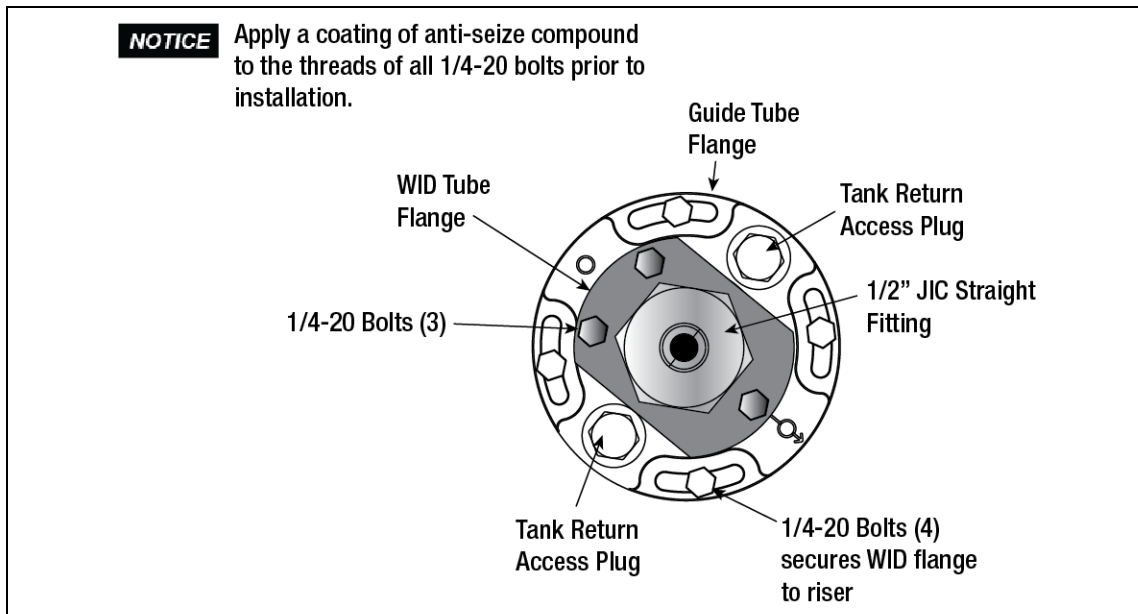
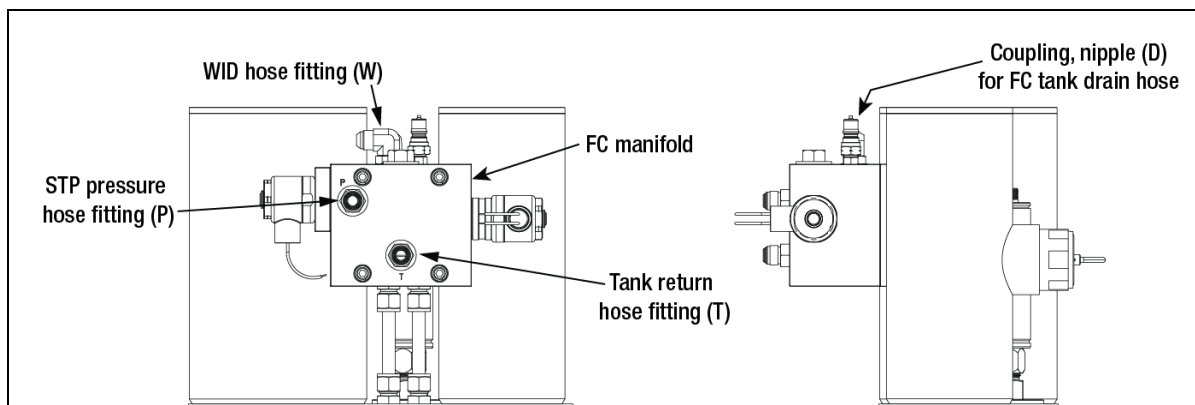
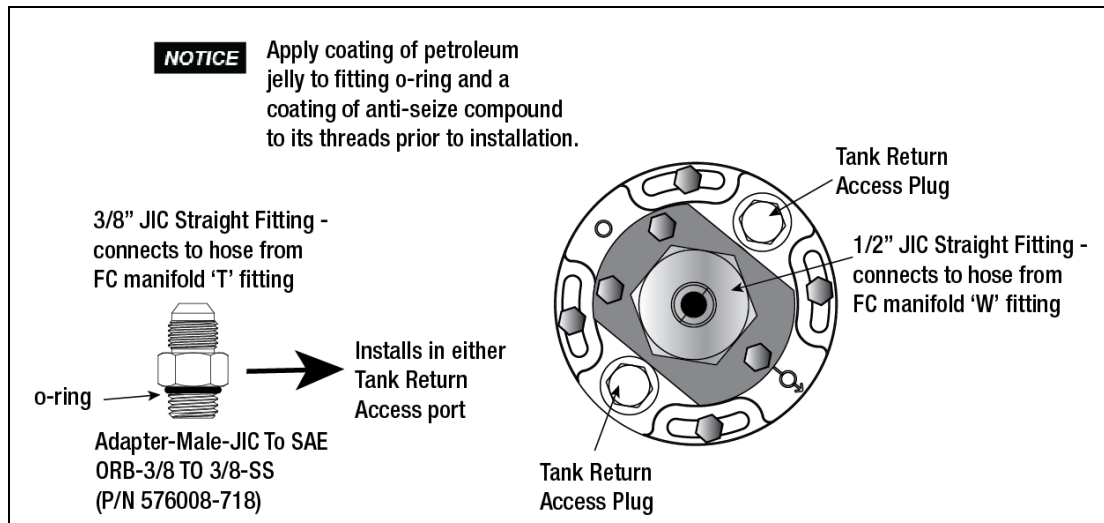

Figure 9. Securing WID Flange To Guide Tube Flange
Figure 19. FC Manifold Hose Connections
Figure 20. WID Hose Connections
3. Attach the 1/2" JIC straight fitting of the hose to the male 1/2" JIC fitting marked 'P' on the front of the FC Manifold (see Figure 19). Tighten the fittings at both ends of the hose.
4. Depending of accessibility, remove one of the two tank return access plugs in the Guide Tube flange (see Figure 20). Apply petroleum jelly to the o-ring on the tank return fitting and anti-seize compound to its threads and install it in the open drain hole and tighten securely.
5. Place the flaretite seal from the kit onto the 3/8" JIC male end of the tank return adapter fitting. Attach the 3/8" JIC elbow female fitting end of the hose to the 3/8" JIC male drain adapter fitting. Attach the 1/2" JIC straight end of the hose to the fitting marked 'T' on the front of the FC Manifold (see Figure 19). Tighten the fittings at both ends of the hose.
6. Place the flaretite seal from the kit onto the male 1/2" JIC elbow fitting labeled 'W' on top of the FC manifold (see Figure 19) and attach the 1/2" JIC straight end of the hose to it. Place the flaretite seal from the kit onto the male 1/2" JIC straight fitting on top of the WID flange (Figure 20) and attach the 1/2" JIC elbow fitting of the hose to it (see Figure 9). Tighten the fittings at both ends of the hose.